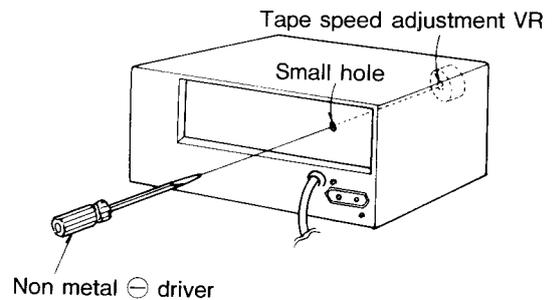

Fig. 1
Tape speed can be adjusted through the small hole on the back-side of main case by the ⊖ screw driver (non metal type) as shown in fig. 1.
<p>C Tape speed</p> <p>Condition:</p> <ul style="list-style-type: none"> • Playback mode • Normal tape mode <p>Equipment:</p> <ul style="list-style-type: none"> • Digital electronic counter or frequency counter • Test tape ... QZZCWAT 	<p>Tape speed accuracy</p> <ol style="list-style-type: none"> 1. Test equipment connection is shown in fig. 9. 2. Playback test tape (QZZCWAT 3,000 Hz), and supply playback signal to frequency counter. 3. Take measurement at middle section of tape. 4. Measure this frequency. 5. On the basis of 3,000 Hz, determine value by following formula: $\text{Tape speed accuracy} = \frac{f - 3,000}{3,000} \times 100 (\%) \quad \text{where, } f = \text{measured value}$ <div style="border: 1px solid black; padding: 5px; width: fit-content; margin: 10px auto;"> <p>Standard value: ± 1.5%</p> </div> <p>Adjustment method</p> <ol style="list-style-type: none"> 1. Playback the test tape (middle) 2. Adjust so that frequency becomes 3,000 Hz 3. Tape speed adjustment VR shown in fig. 1.  <p style="text-align: center;">Fig. 9</p>
<div style="display: flex; justify-content: space-between;"> <div style="width: 48%;"> <ol style="list-style-type: none"> 1) Increase bias current by turning VR201 (L-CH) and VR202 (R-CH). (See fig. 1 on page 4.) 2) Repeat steps 6 and 7 to confirm. (Proceed to steps 8, 9 and 10 if the curve is now within the charted specifications in fig. 15.) 3) If the curve still exceeds the specifications (fig. 15), increase bias current further and repeat steps 6 and 7. </div> <div style="width: 48%;"> <ol style="list-style-type: none"> 1) Reduce bias current by turning VR201 (L-CH) and VR202 (R-CH). 2) Repeat steps 6 and 7 to confirm. (Proceed to steps 8, 9 and 10 if the curve is now within the charted specifications in fig. 15.) 3) If the curve still falls below the charted specifications (fig. 15), reduce bias current further and repeat steps 6 and 7. </div> </div> <ol style="list-style-type: none"> 8. Switch the tape selector to CrO₂, change test tape to QZZCRX, and record 50Hz, 100Hz, 200Hz, 500Hz, 1kHz, 4kHz, 8kHz, 10kHz, 12kHz and 14kHz signals. Then, playback the signals and check if the curve is within the limits shown in the overall frequency response chart for CrO₂ tapes (fig. 20). <div style="text-align: center; margin: 10px 0;">  <p>Fig. 20</p> </div> <ol style="list-style-type: none"> 9. Switch the tape selector to Metal, change test tape to QZZCRZ, and record 50Hz, 100Hz, 200Hz, 500Hz, 1kHz, 4kHz, 8kHz, 10kHz and 12.5kHz signals. Then, playback the signals and check if the curve is within the limits shown in the overall frequency response chart for metal tapes (fig. 20). 10. Confirm that bias currents are approximately as follows when the tape selector is set at different positions. <ul style="list-style-type: none"> • Read voltage on VTVM and calculate bias current by following formula: $\text{Bias current (A)} = \frac{\text{Value read on VTVM (V)}}{10 (\Omega)}$ <div style="border: 1px solid black; padding: 5px; margin-top: 10px; text-align: center;"> <p>around 400μA (Normal position) around 600μA (CrO₂ position) around 1000μA (Metal position) } : measured at TP1 (L-CH) and TP2 (R-CH)</p> </div>